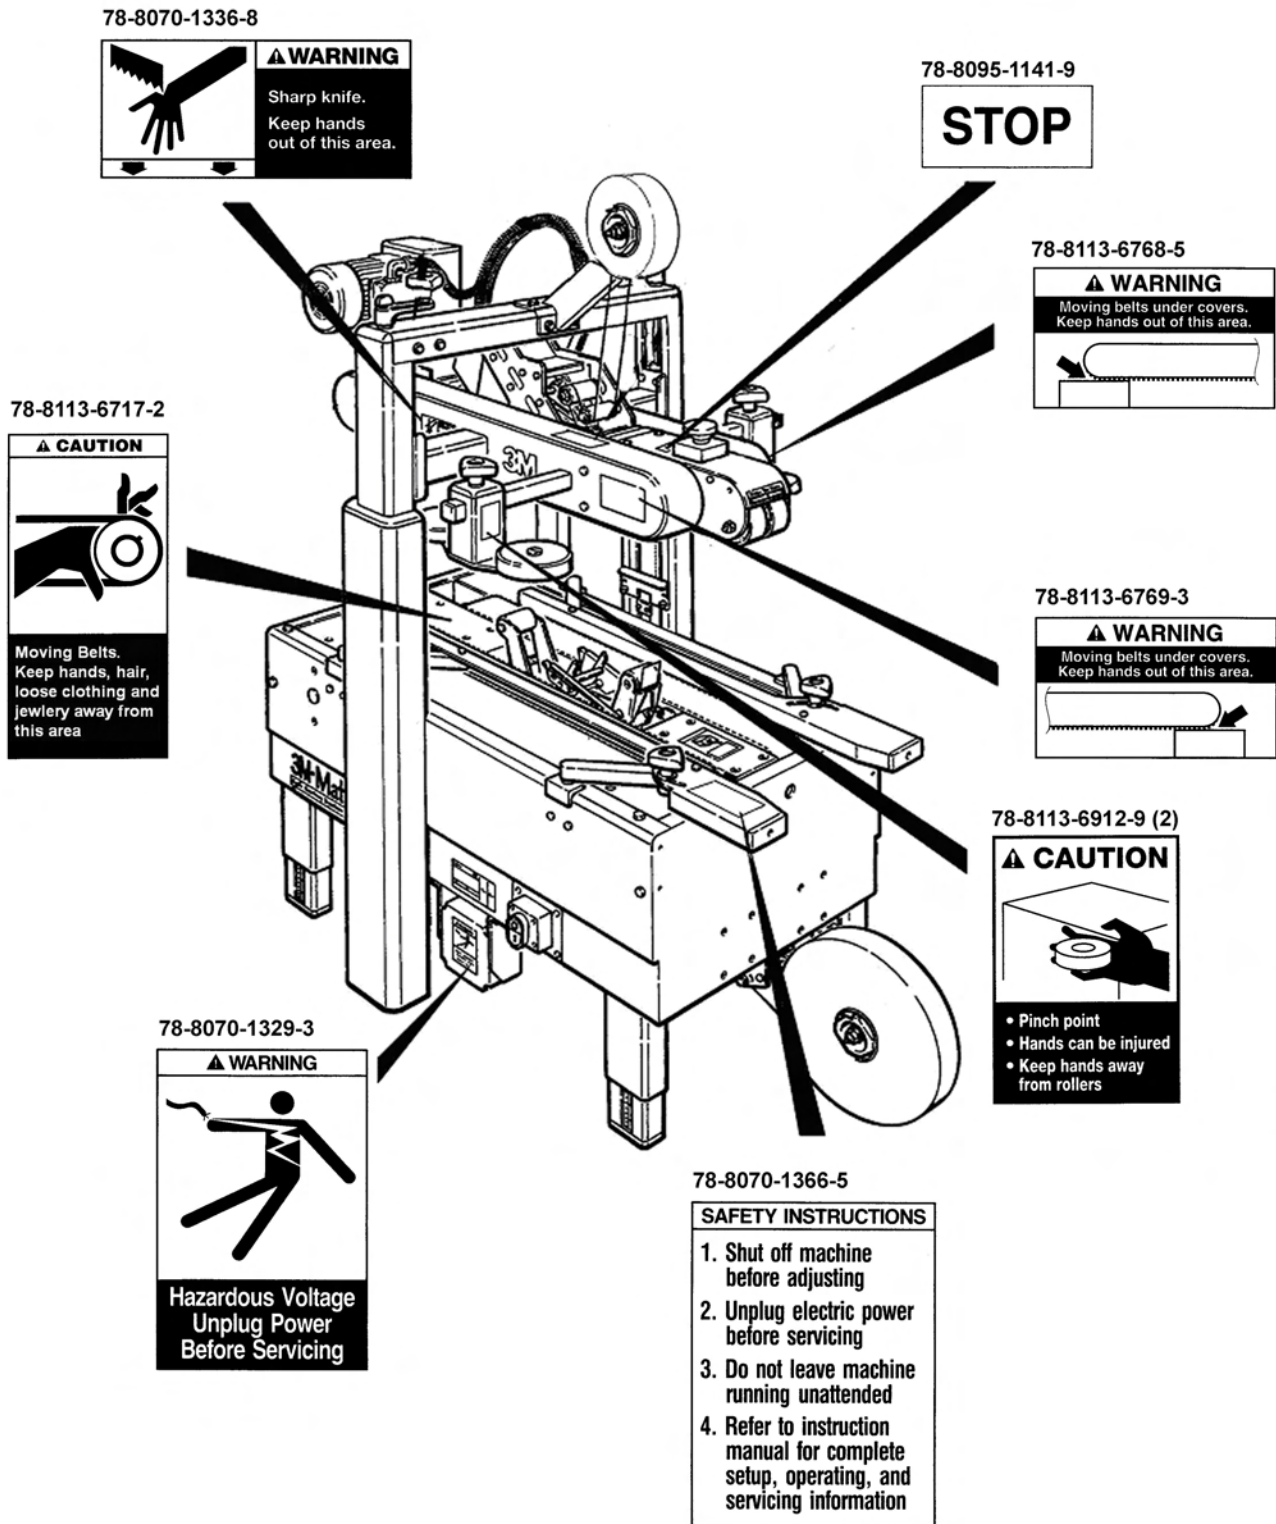

Figure 1-1 – Replacement Labels/3M Part Numbers
**Important** – In the event the following safety labels are damaged or destroyed, **they must be replaced to ensure operator safety.** Replacement part numbers for individual labels are shown in Figures 1-1 and 1-2, or a label kit, part number 78-8098-9175-3, is available that includes all labels used on the machine.